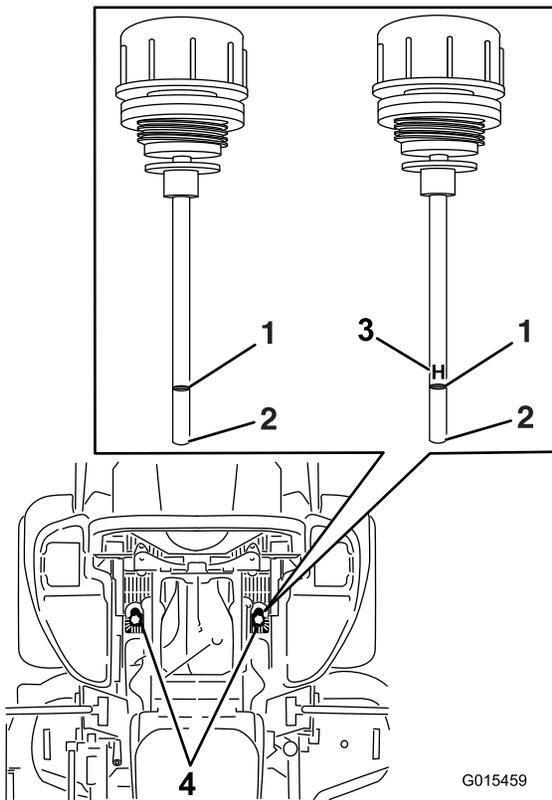

Figure 103
5. Clean the area around the dipsticks of hydraulic-system reservoirs (Figure 103).
6. Remove 1 dipstick from the hydraulic reservoir (Figure 103).
8. Remove the dipstick and look at the end (Figure 103).